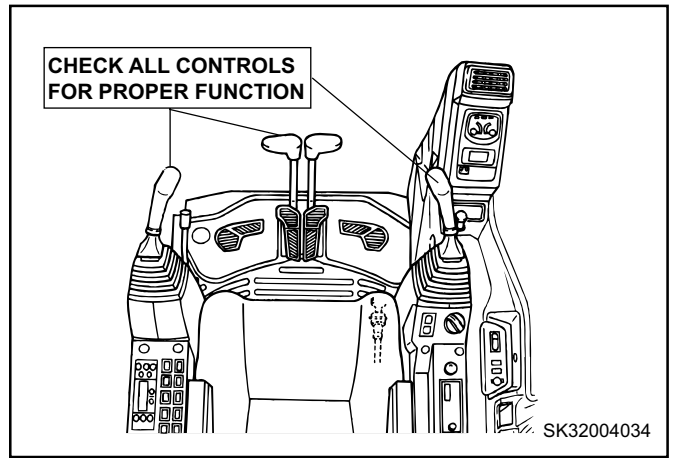

FIGURE 4.17A
1. Check all hydraulic controls for proper functionality before operating the machine. See Figure 4.17A.